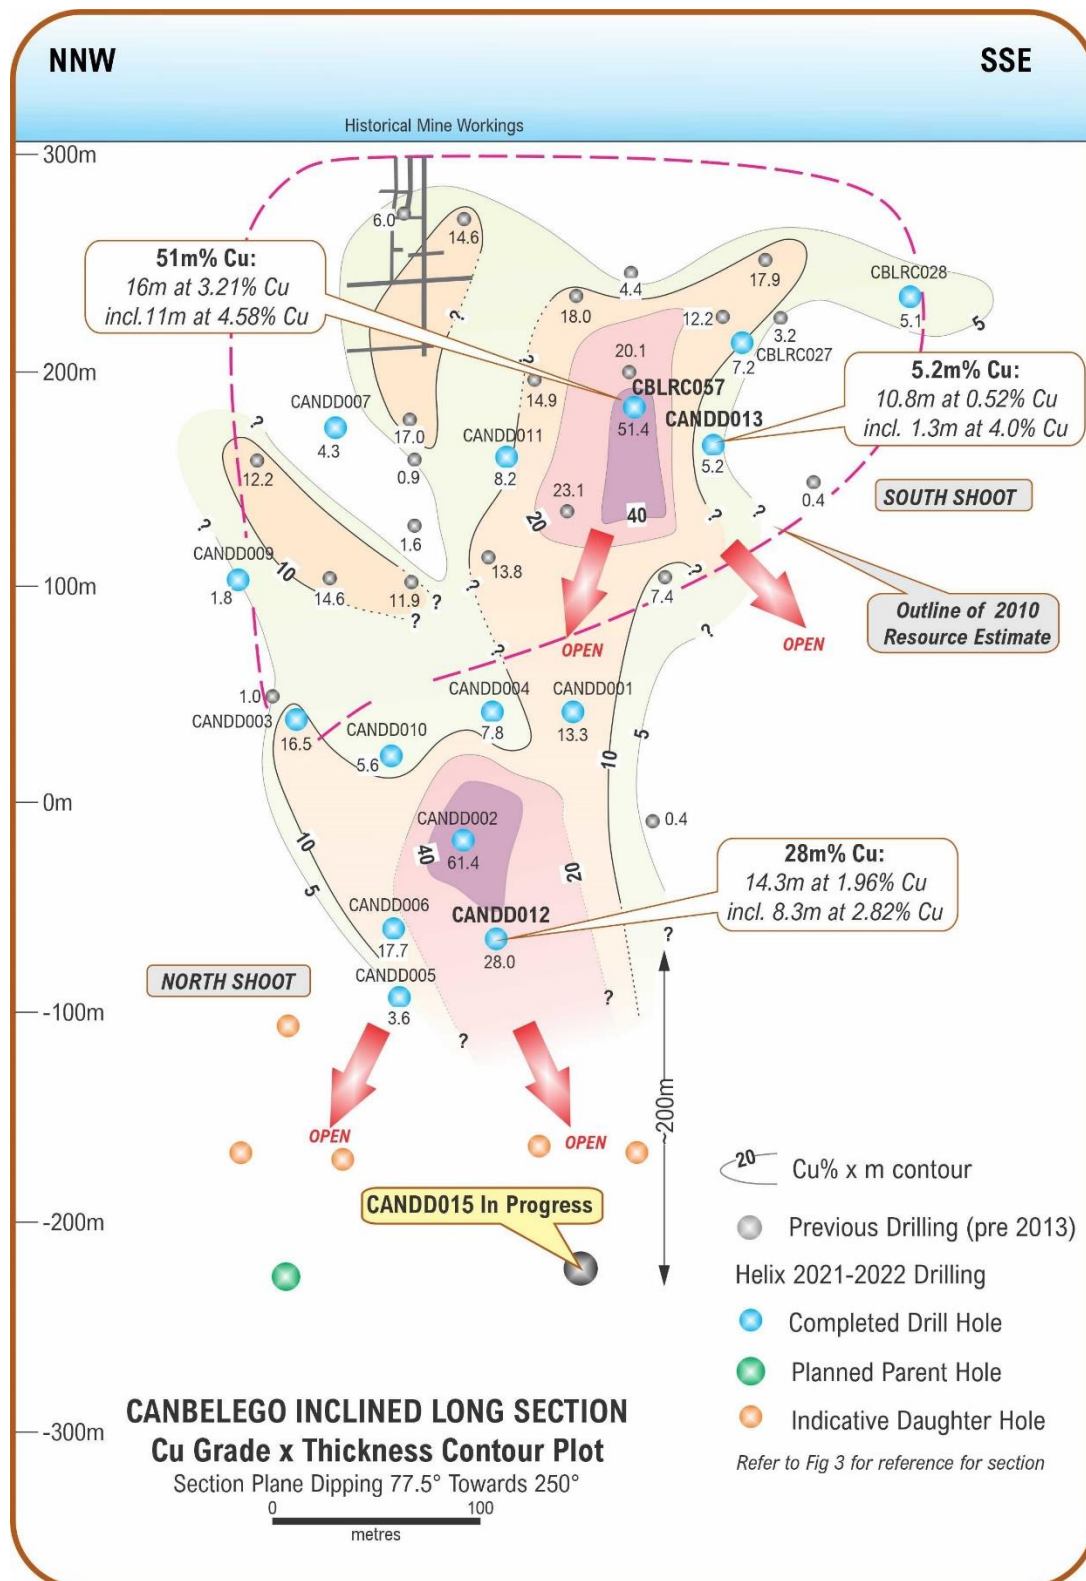
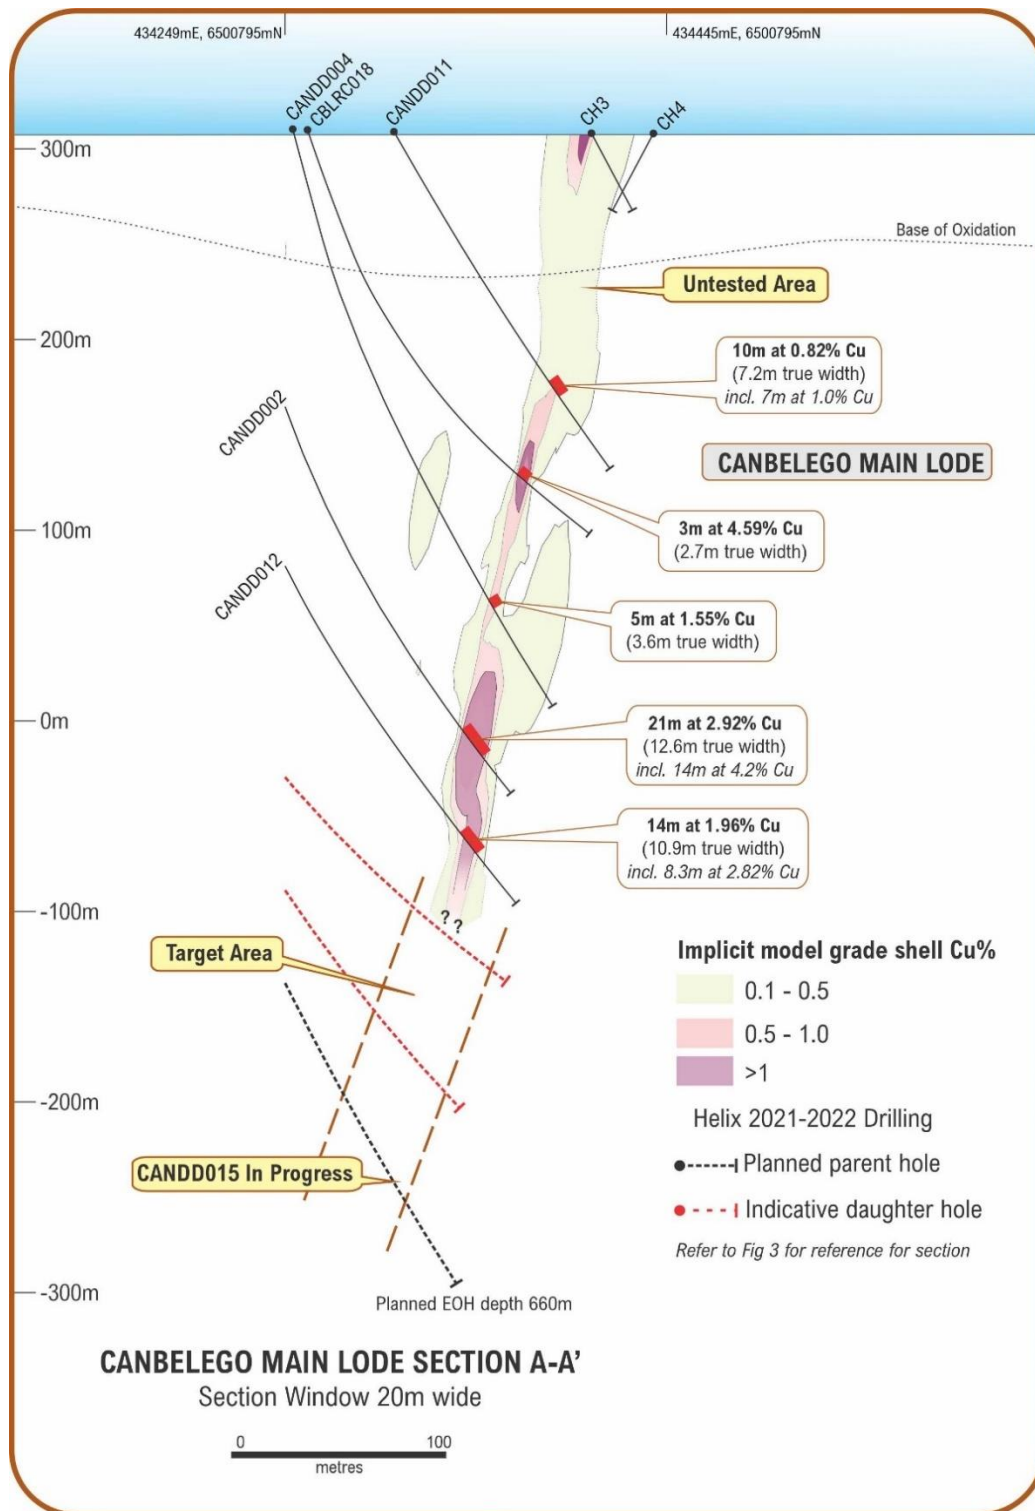
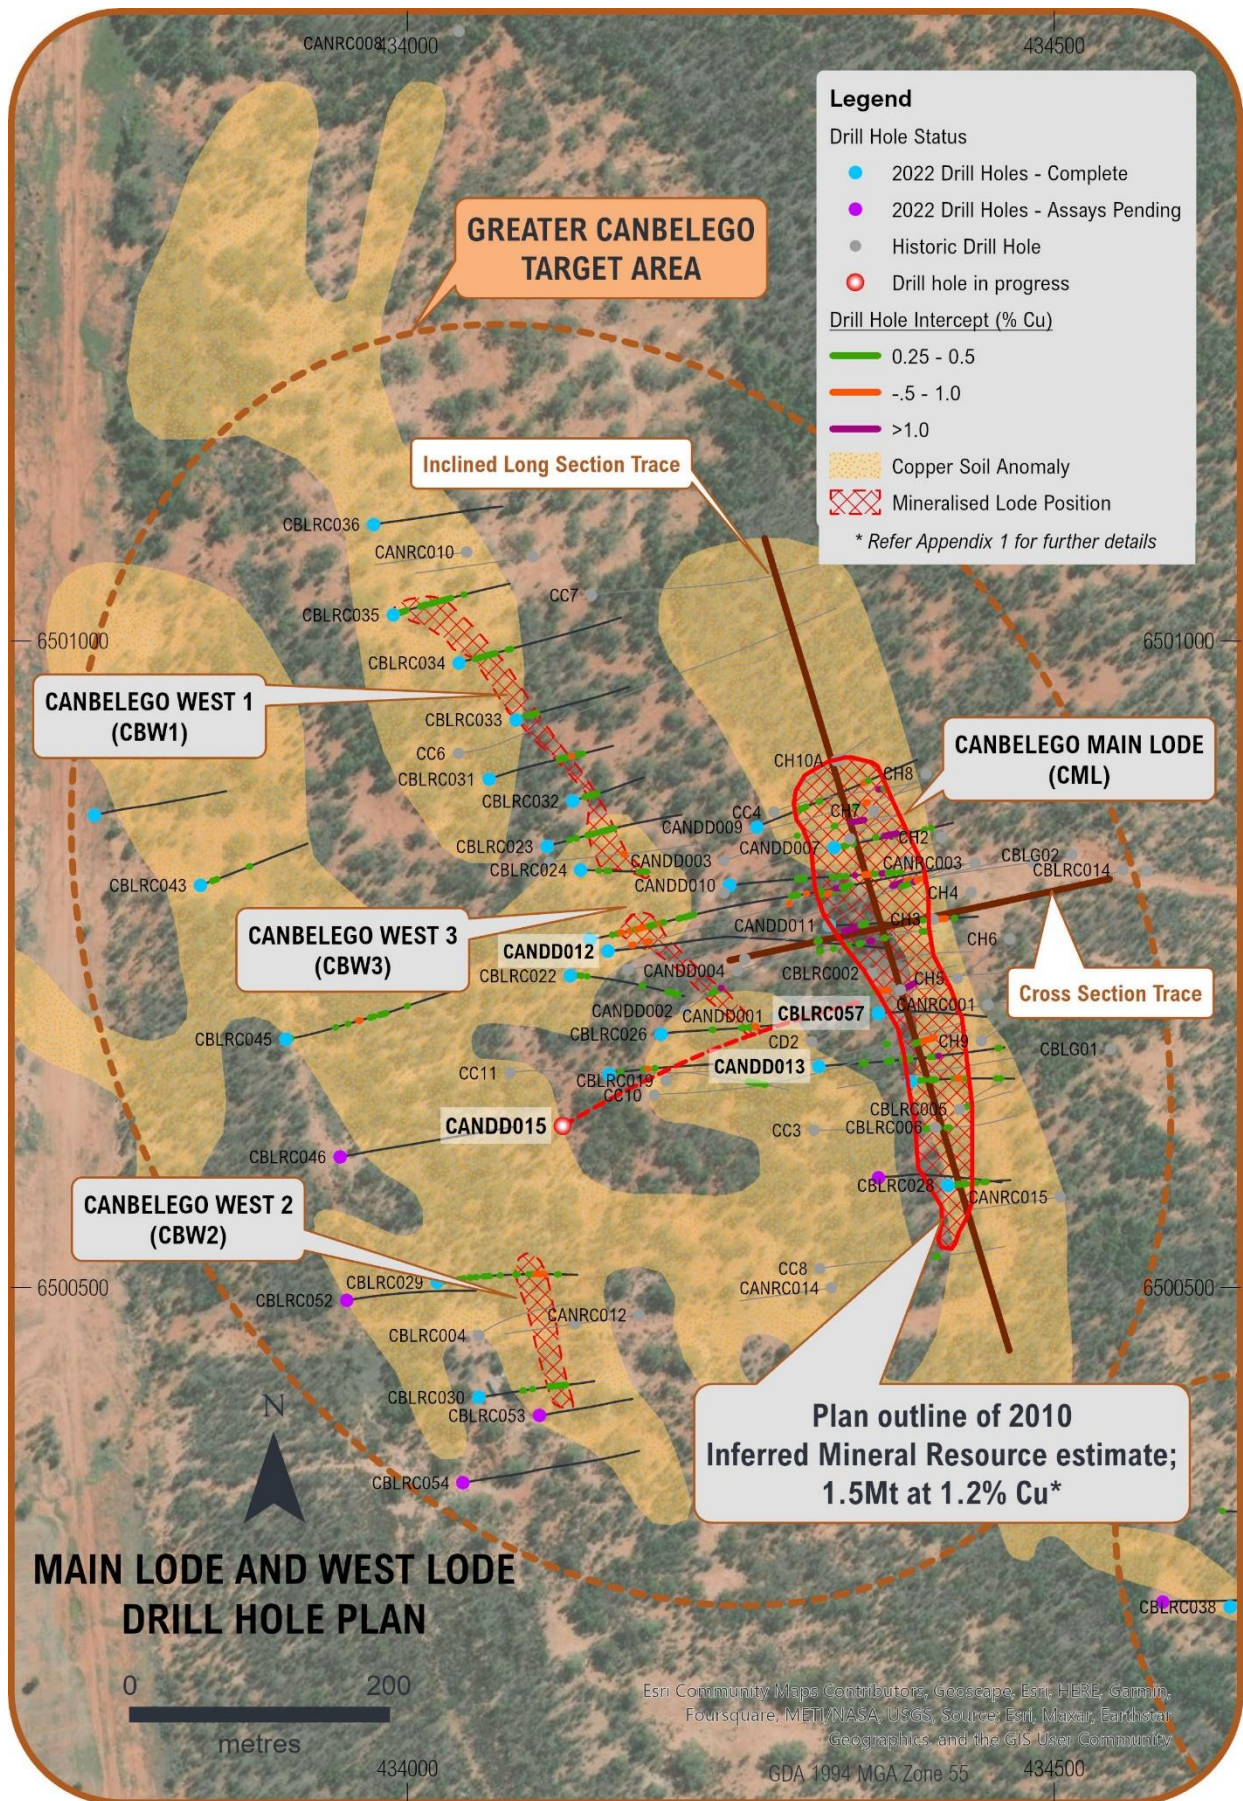

Figure 1: Canbelego Main Lode Inclined Long Section – grade-thickness contour plot
Figure 2: Schematic Cross Section- Canbelego Main Lode
Figure 3: Greater Canbelego Location Plan
- (Refer Figure 1 – Canbelego Main Lode Long Section)
- **Bold, expansive diamond drilling underway at Canbelego Main Lode – testing 200m beneath currently known mineralisation to 'map' extent of copper lodes and establish downhole electromagnetic survey platform (Refer Figure 2 – Canbelego Main Lode Cross Section)**
This report provides an update of the Main Lode assay results from diamond holes CANDD012 and CANDD013 and RC hole CBLRC057. Refer **Figure 1 – Canbelego Main Lode Long Section**, **Figure 2 – Canbelego Main Lode Cross Section** and **Figure 3 – Canbelego Drill Hole Location Plan**.
Two 'Parent' diamond drill holes are planned, each approximately 660m deep to test the extensions of the north- and south plunges as depicted in the lower portions of **Figure 1 – Canbelego Long Section** and **Figure 2 – Schematic Cross Section**. These drill holes will target the mineralised zones and also create a platform for downhole electromagnetic surveys – vital for detecting a 'near-miss' and vectoring additional drilling toward conductive targets. Subject to these results, the 'Parent' holes can also be utilised to 'wedge-off' daughter holes to rapidly and more cost effectively test whatever mineralisation or geophysical targets are generated.